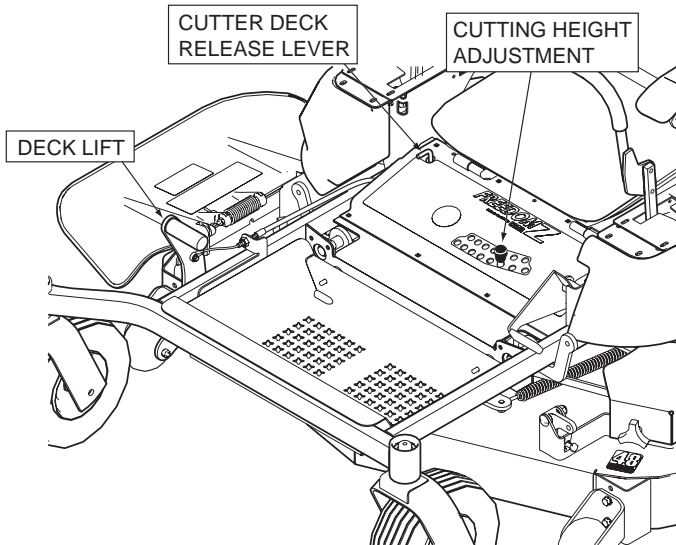

Figure 4-4 Cutter Deck Height Adgustment
2. Push the cutting height adjustment foot pedal all the way forward using your right foot until it locks in place. (Figure 4-4, page 18)
3. Insert the pin into the cutting height index at the desired cutting height. Push forward on the deck lift foot lever, hold in place and lift up on the deck release lever, (Figure 4-4). Slowly release the foot pedal. A deck height decal is located on the cutting height index as an aid in adjusting the deck to the desired height. (Figure 4-4)